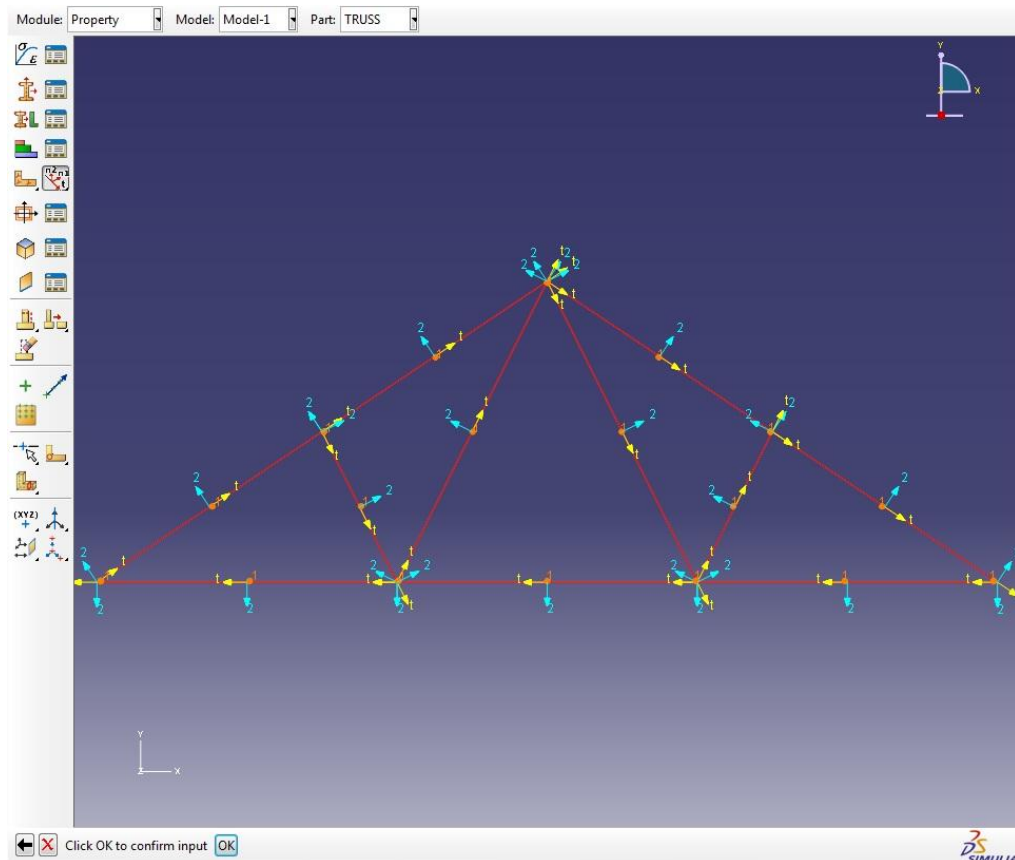

Figure 12. Beam Section Orientation
- Using the computer keyboard, hit **Enter**. The model should look identical to Figure 12.